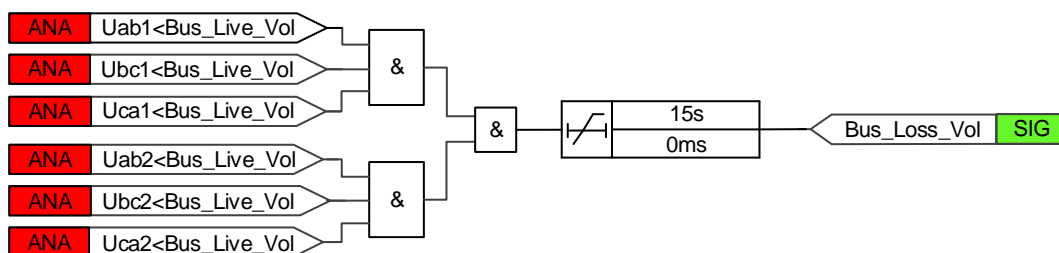

Figure 3.34-14 Diagram of busbar voltage loss logic
- 6) The time period during which both of operation power supplies do not meet live-voltage condition is longer than 15s. The logic diagram of busbar voltage loss is shown in Figure 3.34-14;